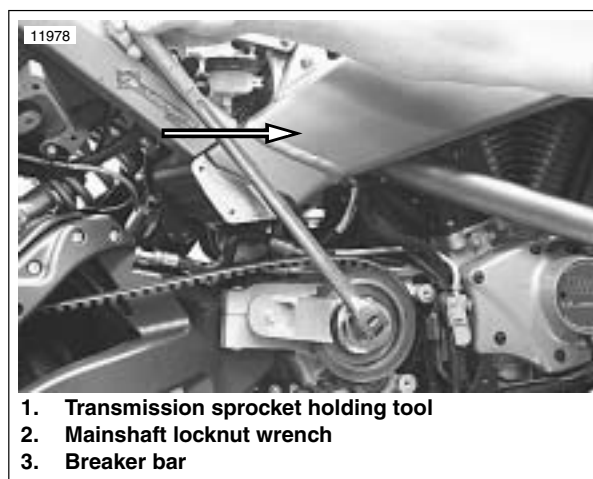

Figure 6-102. Removing Transmission Sprocket Locknut
9. See Figure 6-102. Place transmission in neutral. Install the P3/Blast SPROCKET HOLDING TOOL (Part No. B-43982) to hold the sprocket.
10. Remove transmission sprocket nut (3) from main drive gear (5) using MAINSHAFT LOCKNUT WRENCH (Part No. HD-94660-37B or HD-46288) and a breaker bar.
11. Remove secondary drive belt from transmission sprocket. Remove transmission sprocket (4) from main drive gear (5).